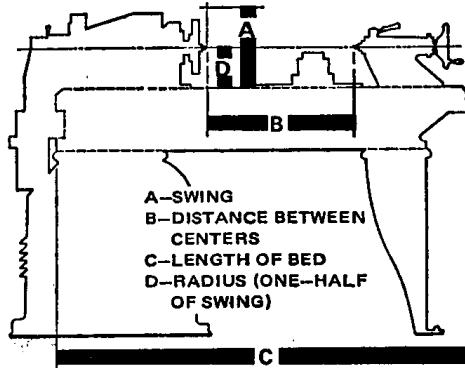

Fig. 1 Size is indicated by swing and the length of the bed.
Lathe size is determined by swing and length of the bed (Fig. 1). The swing is twice the distance from the live center point of the spindle to the top of the bed,^② or the